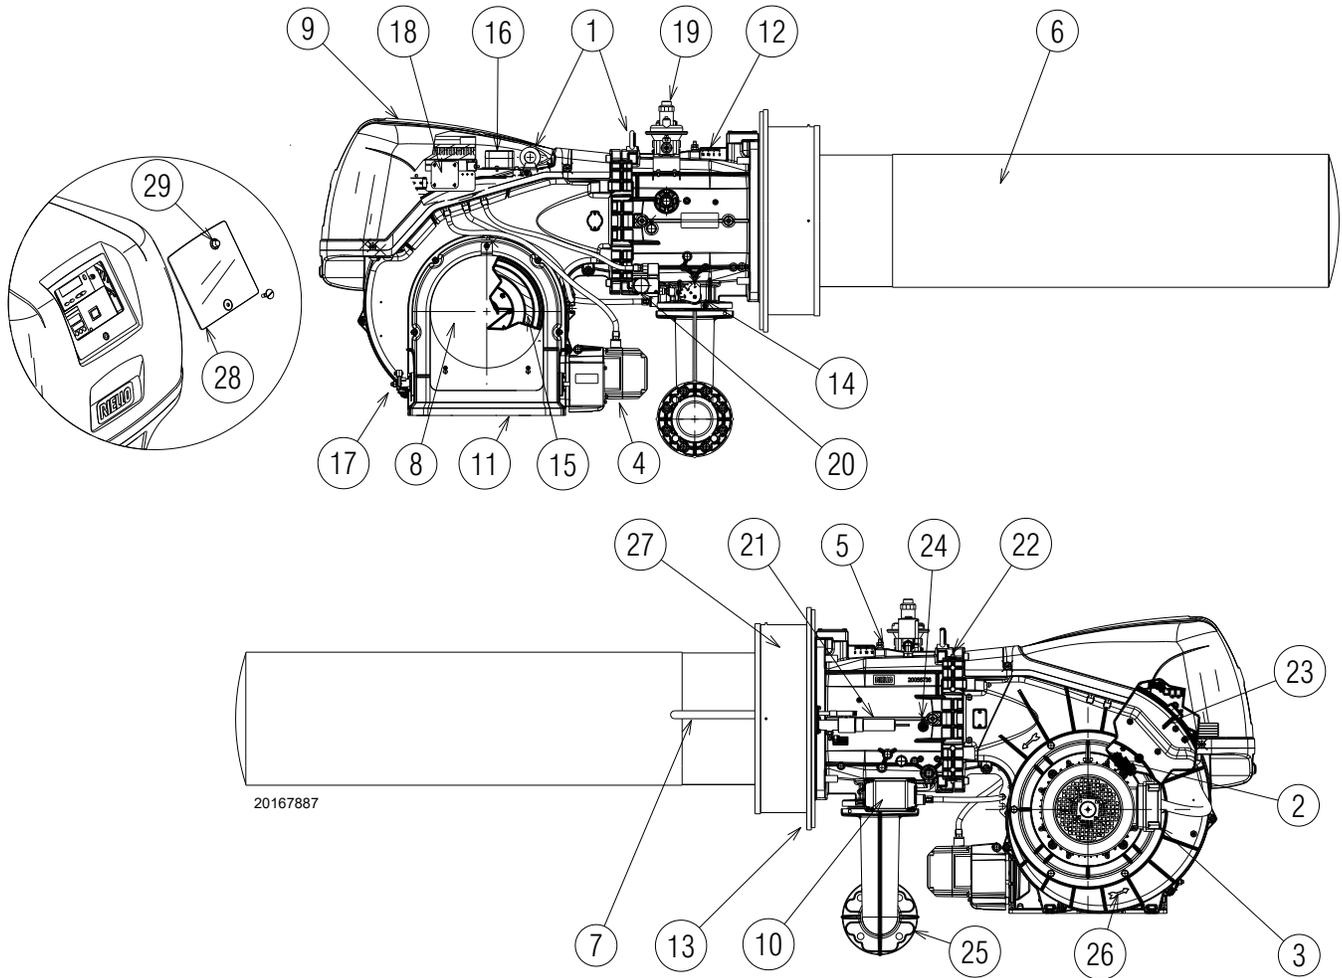

Fig. 5
- (1) Reference conditions: ambient temperature 68 °F (20 °C) - Barometric pressure 394" WC - Altitude 329 ft.
(2) Pressure at test point (Fig. 5 on page 11), with zero pressure in the combustion chamber, with open gas ring 2)(Fig. 22 on page 24) at maximum burner output
(3) Sound pressure measured in manufacturer's combustion laboratory, with burner operating on test boiler and at maximum rated output. The sound power is measured with the "Free Field" method, as per EN 15036, and according to an "Accuracy: Category 3" measuring accuracy, as set out in EN ISO 3746.